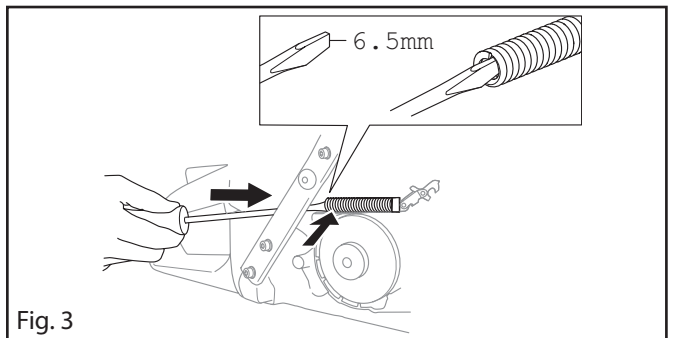

Fig. 3
7. Remove the pressure spring by freeing the back end with a screwdriver. See figure 3.